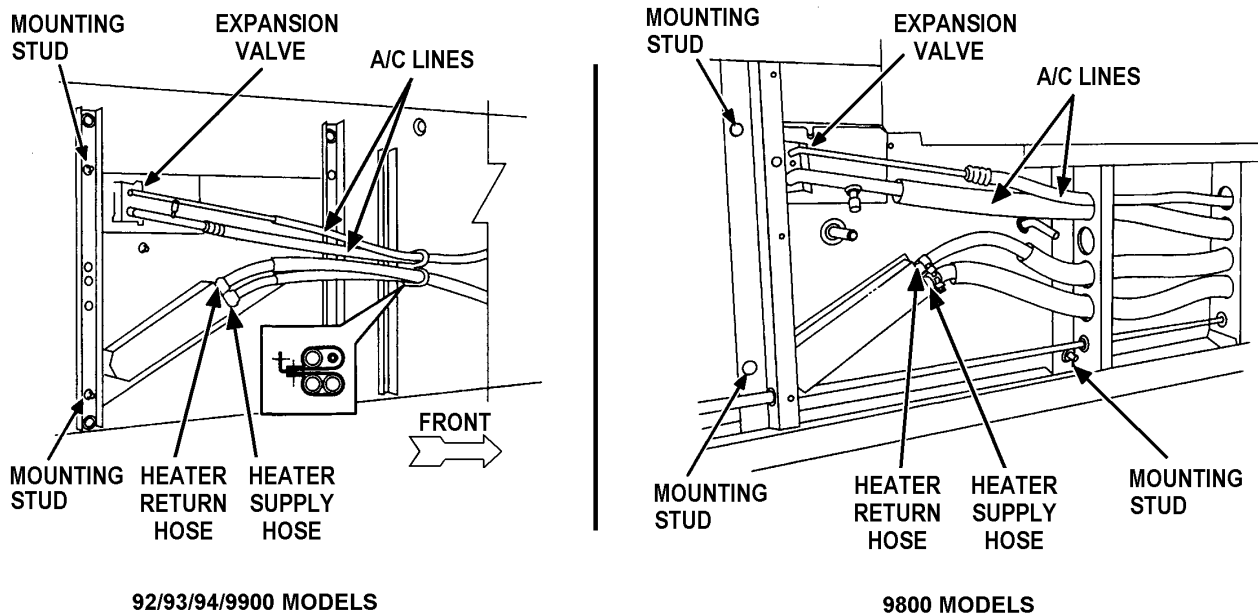

Figure 19 Under Cab Heater A/C Routing
1. Install washer and nuts on the mounting studs (Figure 19). Tighten mounting nuts to 22 to 28 lbf-ft (30 to 38 Nm).
2. Install the heater hoses on the heater core tubes making certain that the supply hose is on the inlet tube and the return hose on the outlet tube. The heater core inlet tube is the one nearest the center of the cab. Install the hose clamps (Figure 19).
4. Lubricate new O-rings with **MINERAL-BASED** refrigerant oil and slide them on both refrigerant line fittings that will be installed on the expansion valve. Position both fittings into the expansion valve openings. Slide the plate that holds the fittings in place onto the stud (Figure 19 and Figure 7). Install the 10 mm lock nut and tighten to 80 to 90 lbf-in (9 to 10 Nm).